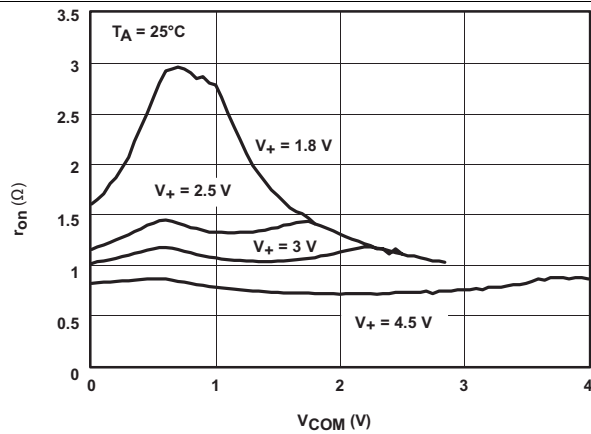

Figure 1. r_{on} vs V_{COM}
Figure 1 illustrates the measurement setup and timing diagram for the input signal. The setup shows a logic input (1) connected to the IN pin of a device. The device's COM pin is connected to a common mode voltage source (V_{COM}) and a load capacitor (C_L). The timing diagram shows the logic input (V_I) switching between V_{IH} and V_{IL} , and the common mode voltage (V_{COM}) switching between two levels, with a transition time ΔV_{COM} .